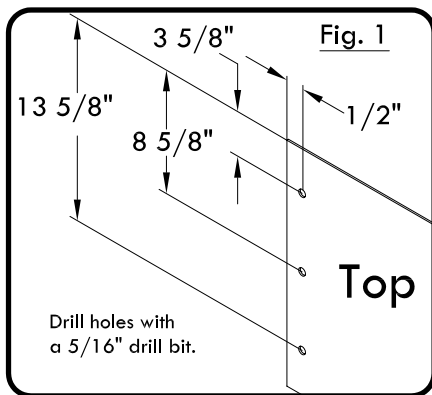

Fig. 1
**Step 1:** Drill three holes at one end of the plastic slide bed using a  $\frac{5}{16}$ " drill bit and using the dimensions shown in fig. 1. This end will be the top of the slide.